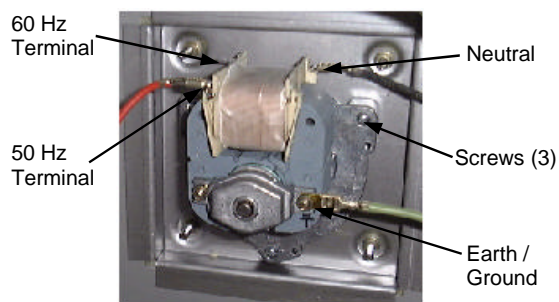

Figure 6.3.24
- 4) Ensure wire connections are correct to the voltage supply—60 Hz / 50 Hz (fig 6.3.24)